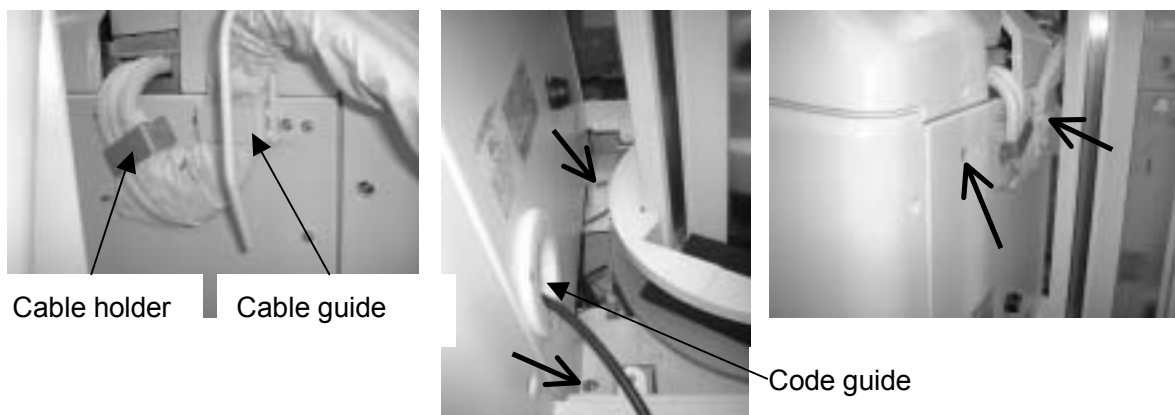

Fig. 3-12 Screw cramp positions of the front cover
5. Unscrew the four screws as shown in Fig. 3-12 and remove the front cover.